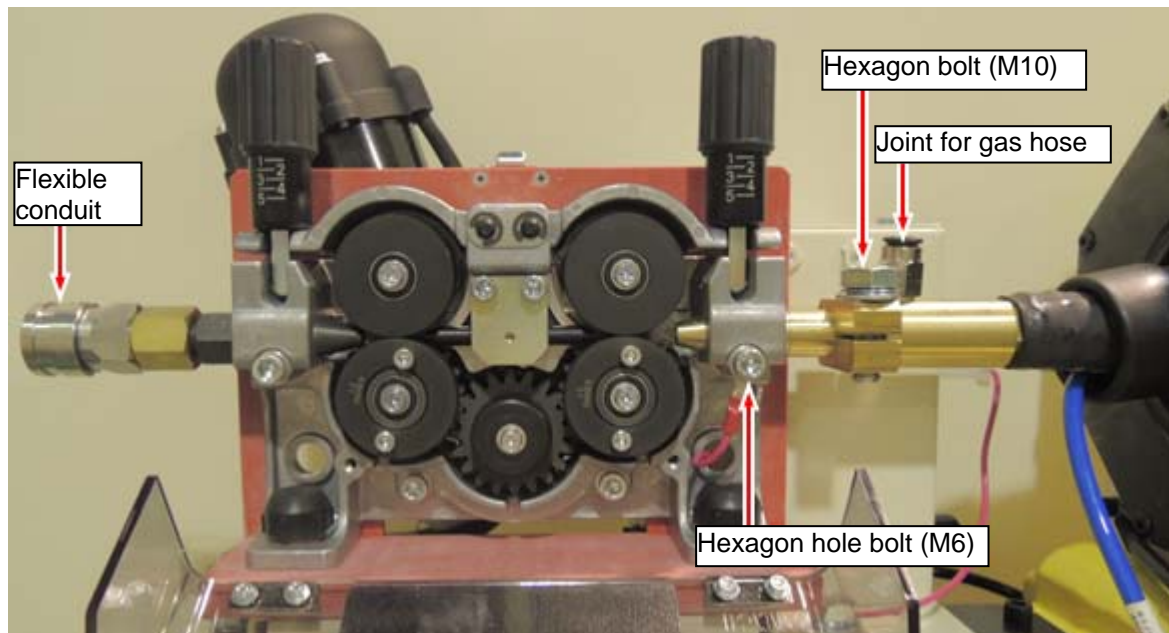

Fig. 8.8 Replacing the wire feeder
- 5 Loosen the union nut with a spanner, remove the torch neck, then replace by new one. (Refer to Fig. 8.8 (d)) Tighten the union nut with the regulated torque.
- 1 Remove the flexible conduit of the wire feeder referring to Fig. 8.8, cut the wire, feed the wire until it does not come from the roller part, then pull out the wire from the tip end.